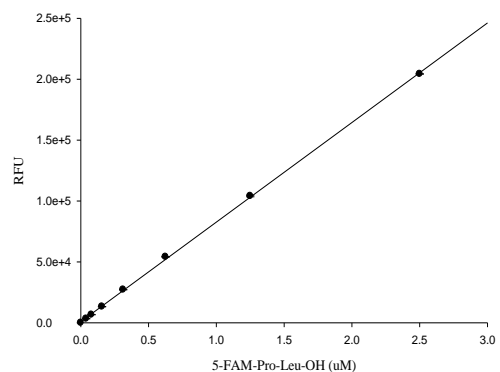

Figure 2. 5-FAM-Pro-Leu-OH reference standard curve
- Plot 5-FAM fluorescent reference standard as RFU (relative fluorescence unit) versus concentration as in **Figure 2**.